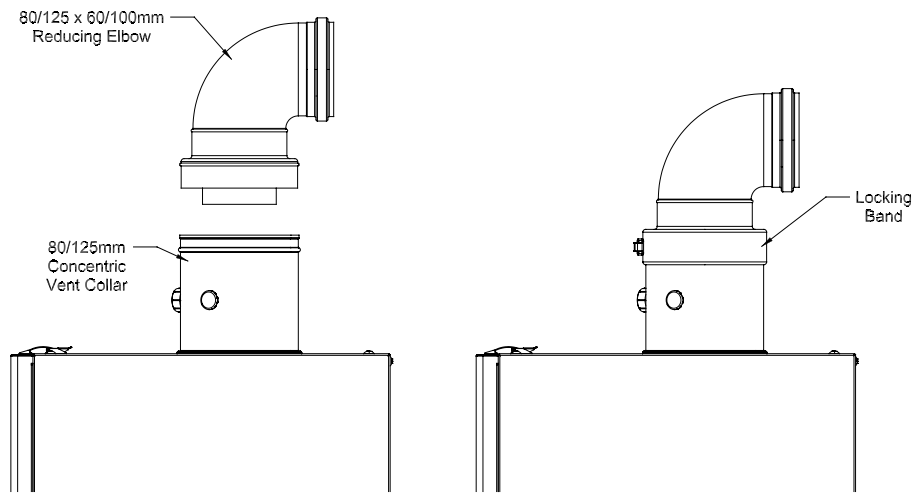

FIGURE 7.20: INSTALLATION OF REDUCING ELBOW ON CONCENTRIC BOILER COLLAR
- c) Two (2) Rubber wall grommets (Crown PN 230522).
- 2) Unless the 80/125 straight riser (PN 230515) is used, start by attaching the reducing elbow to the boiler collar. To do so, remove the clamp from the large end of the reducing elbow and set aside. Apply a small amount of water to the brown gasket on the boiler collar. Push the elbow onto the boiler collar until the bead on the elbow contacts the top edge of the collar (Figure 7.20).
- 3) Reinstall the clamp removed in Step (2) so that the elbow is secured to the boiler collar.